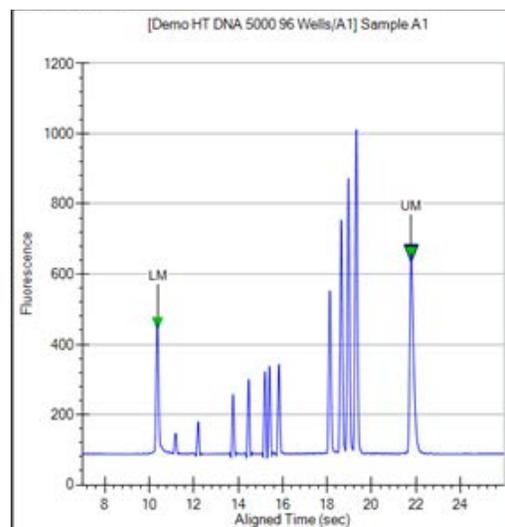

Figure 5. Markers - DNA
- Two DNA fragments, the **Lower Marker** and **Upper Marker**, are run with each of the samples, bracketing the DNA sizing range. The Lower Marker and Upper Marker are internal standards used to align the ladder data with data from the sample wells. Figure 5 shows an example of assigned marker peaks in a sample well.